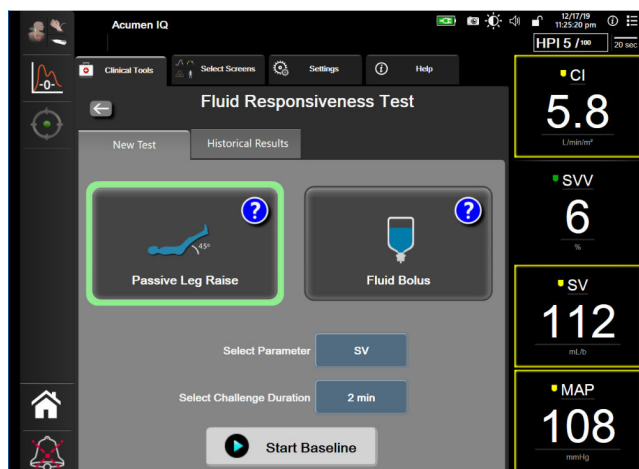

Figure 14-17: Fluid Responsiveness Test – New Test Screen
- On the **New Test** tab (see Figure 14-17 on page 320), touch the desired test type: **Passive Leg Raise** or **Fluid Bolus**.